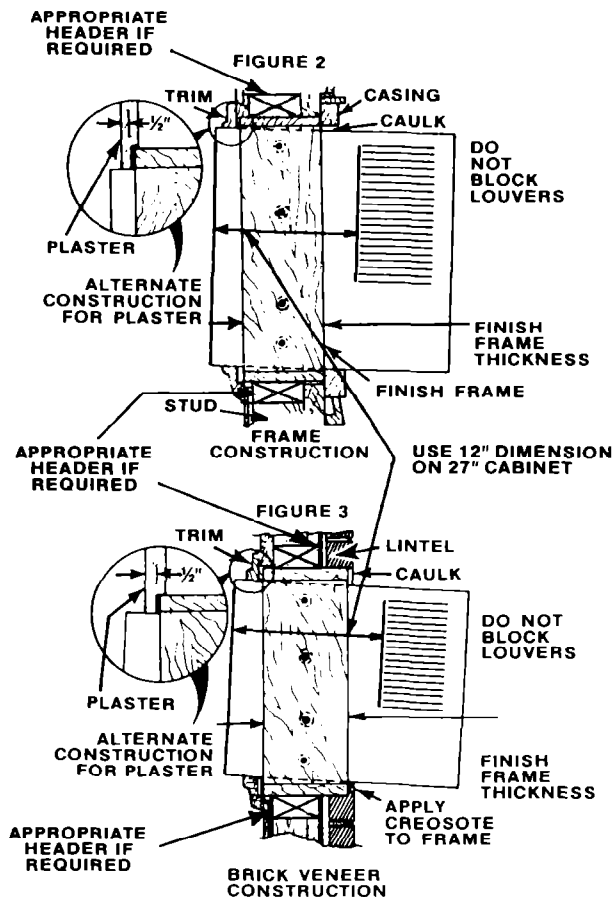

FIGURE 3
- A. Select the right place for installing your air conditioner. Choose the type of molding you want to go around the room side of the cabinet. Your choice affects the finish frame line-up with the inside wall. When using a wood, metal or plastic molding, the finish frame should almost line up with the inside wall. If the wall is plastered to the cabinet and no molding is used, the finish frame must be set into the wall by $\frac{1}{2}$ " (see Figure 2 for frame construction or Figure 3 for brick veneer construction). Cut through two studs for support.